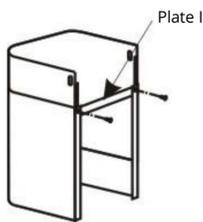

fig.3
4. Drill 2x8mm holes to accommodate the "Plate II". Screw and tighten the plate into the wall with 2 screws provided (see fig.3 below)